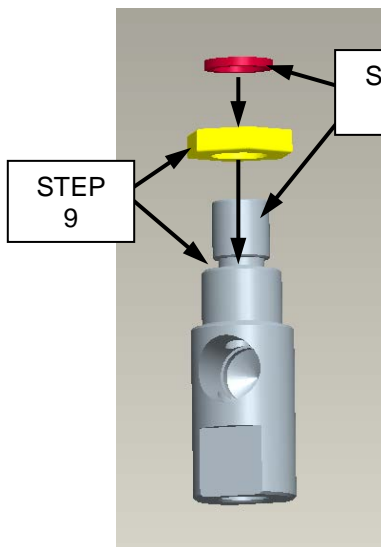

Figure 3
9. Thread M16 jam nut onto M16 male thread on aluminum fitting, to the fitting shoulder (**Figure 3**).
10. Thread 4-way O-ring washer onto M16 male thread on aluminum fitting (**Figure 3**).